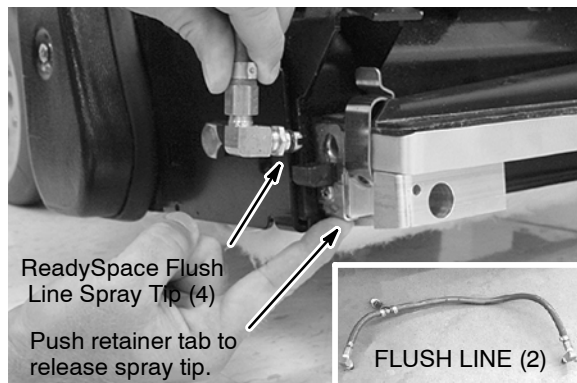

FIG. 39
4. Inspect the spray tip pattern in the two ReadySpace flush lines (4 spray tips). If tips are clogged, remove the flush lines and soak them in an acetic acid solution for up to six hours (Figure 39). Do not remove tips from flush lines.